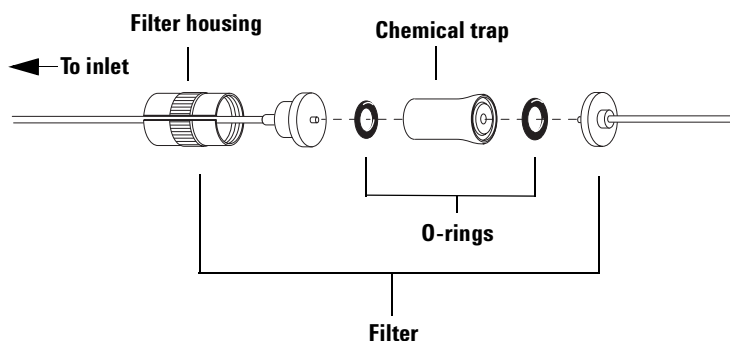

Figure 56 Filter (exploded view)
- 3 Unscrew the two sides of the filter housing. Move the housing to the left, with the line to the inlet still going through its center. See Figure 56.